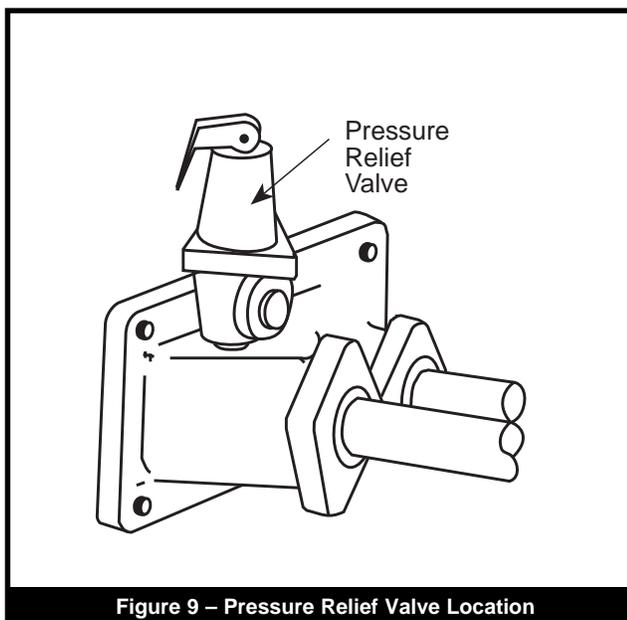

Figure 9 – Pressure Relief Valve Location
2. The pressure relief valve installed in the tapped opening provided in the outlet header (See **Figure 9**), must be piped, but not fastened, to a drain or floor sink. The drain pipe must be the same size as the valve outlet and must pitch downward from the valve.